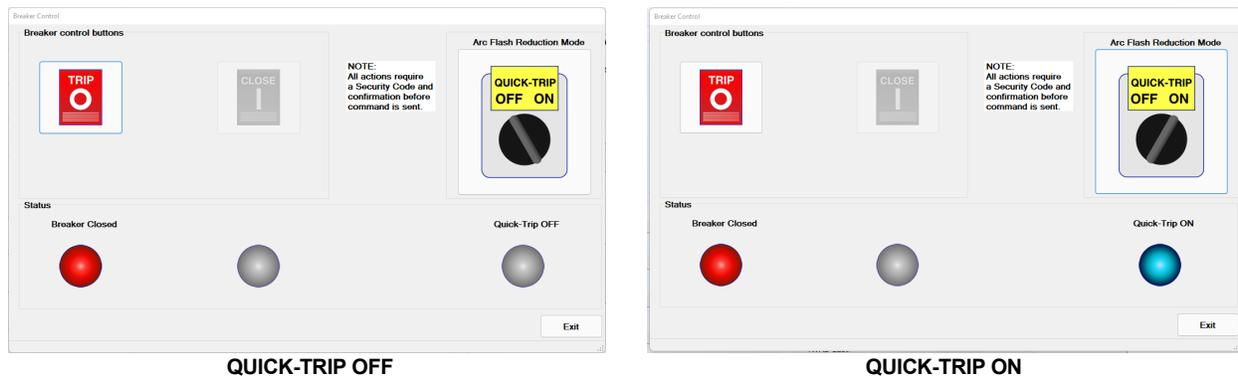
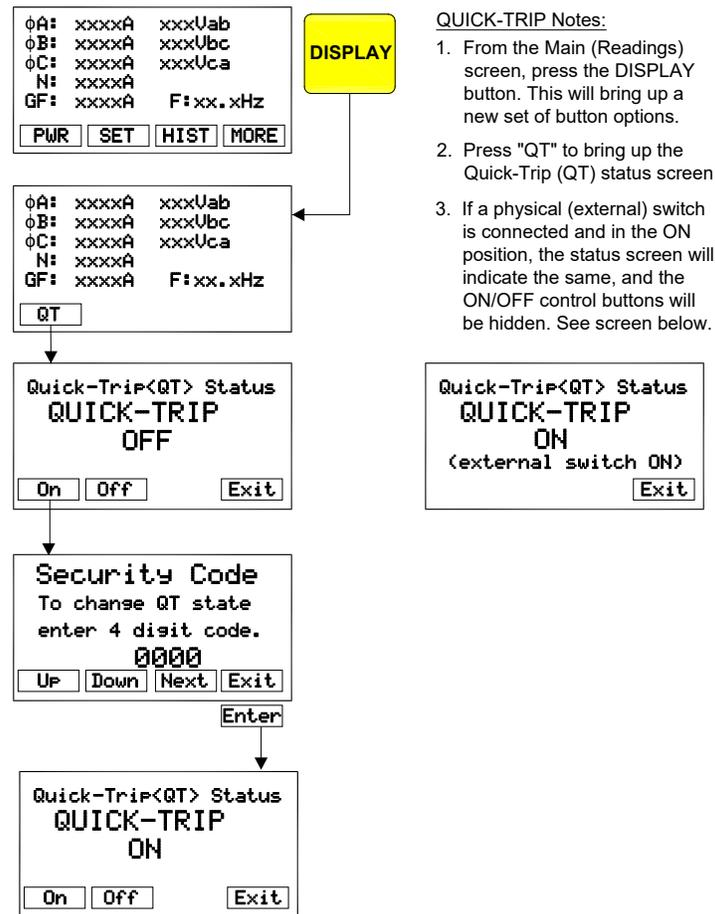

Figure 7.7: Breaker Control Window (InfoPro-AC or Smart 1-Line)
Figure 7.8: Front Panel QUICK-TRIP ON/OFF Control
QUICK-TRIP® arc flash hazard reduction can be activated using local or remote switches (See Sections 7.1 and 7.3) or via three (3) other “soft” methods including the AC-PRO-II front Keypad, via InfoPro-AC (USB), or the Smart 1-Line HMI. (See Figure 7.7: Breaker Control and Figure 7.8: Front Panel QUICK-TRIP ON/OFF Control.) URC recommends using only one means or the other (use either physical switches OR use a “soft” method).